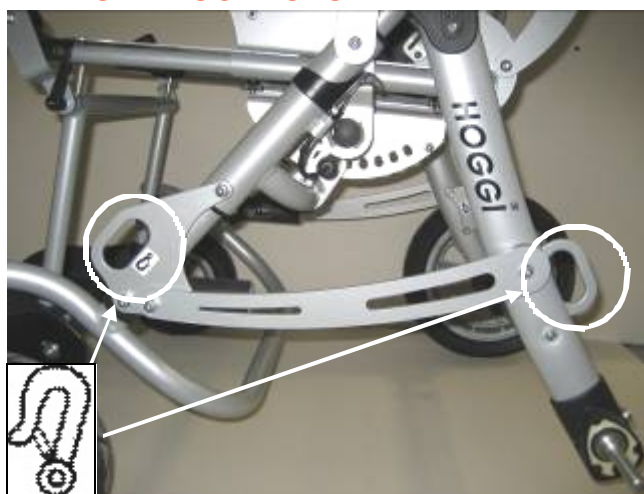

Figure 1: Securement Point Locations
- b. Securement points are in the locations shown in FIGURE 1.